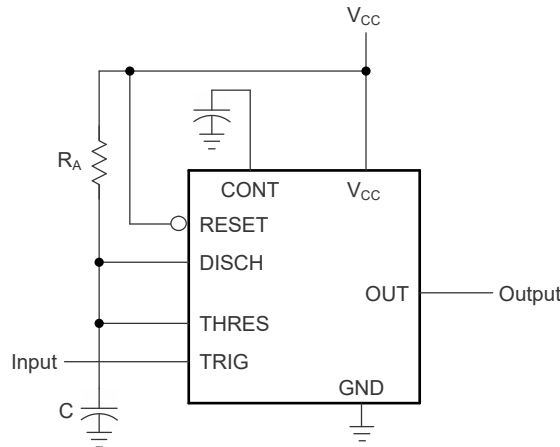

Figure 6-2. Circuit for Monostable Operation
- (1) For conditions shown as MIN or MAX, use the appropriate value specified under *Recommended Operating Conditions*.
- (2) Values specified are for a device in a monostable circuit similar to Figure 6-2, with the following component values: $R_A = 2k\Omega$ to $100k\Omega$, $C = 0.1\mu F$.
For monostable operation, Figure 6-2 shows how to connect any of these timers. If the output is low, application of a negative-going pulse to the trigger (TRIG) sets the flip-flop (\bar{Q} goes low), drives the output high, and turns off Q1. Capacitor C is then charged through R_A until the voltage across the capacitor reaches the threshold voltage of the threshold (THRES) input. If TRIG has returned to a high level, the output of the threshold comparator resets the flip-flop (\bar{Q} goes high), drives the output low, and discharges C through Q1.
Figure 6-5 shows that adding a second resistor, R_B , to the circuit of Figure 6-2 and connecting the trigger input to the threshold input causes the timer to self-trigger and run as a multivibrator. Capacitor C charges through R_A and R_B and then discharges through R_B only. Therefore, the duty cycle is controlled by the values of R_A and R_B .
By adjusting the length of the timing cycle, the basic circuit of Figure 6-2 can be made to operate as a frequency divider. Figure 6-8 shows a divide-by-three circuit that makes use of the fact that retriggering cannot occur during the timing cycle.
See Figure 6-2